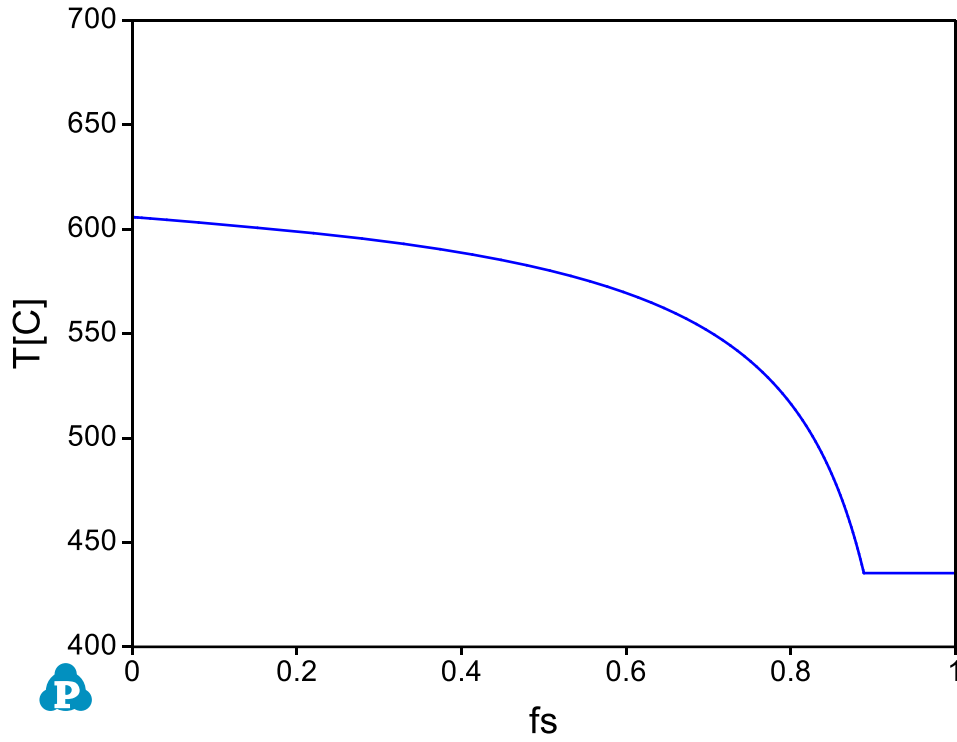

Figure 5.1.3: Default plot showing fraction of solid as a function of Temperature
- The default plot presents the relationship between fraction of solid (fs) and temperature during solidification as shown in Figure 5.1.3.